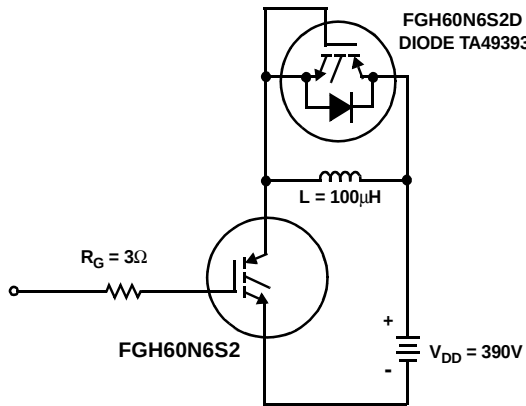

Figure 20. Inductive Switching Test Circuit
| $E_{\text{ON}2}$            | Turn-On Energy (Note 2)     | Test Circuit - Figure 20                                                                                                                                                    |                                             | -   | 490 | -   | $\mu\text{J}$ |
2. Values for two Turn-On loss conditions are shown for the convenience of the circuit designer.  $E_{\text{ON}1}$  is the turn-on loss of the IGBT only.  $E_{\text{ON}2}$  is the turn-on loss when a typical diode is used in the test circuit and the diode is at the same  $T_J$  as the IGBT. The diode type is specified in figure 20.